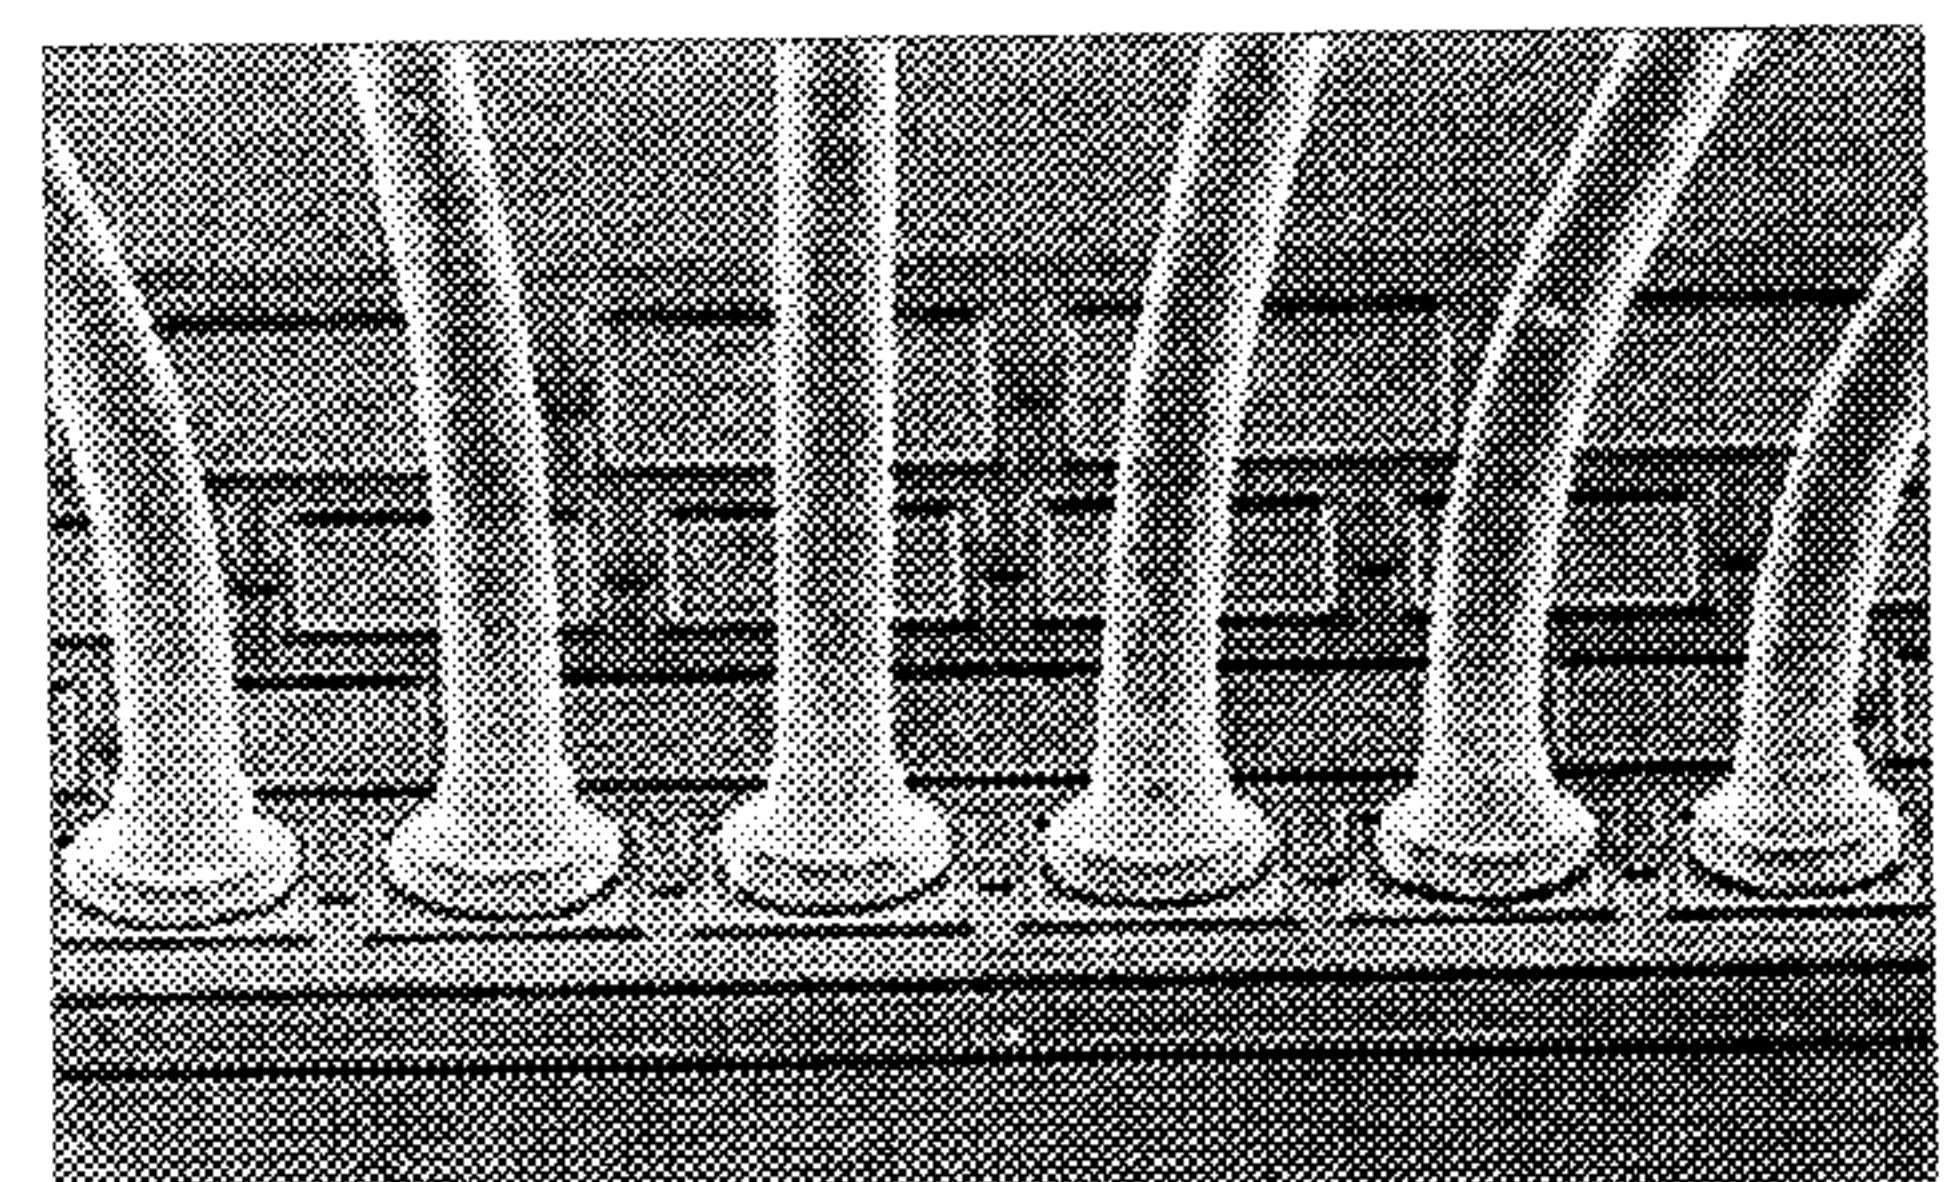

Fig. Ex4.87
- 4.87 Prepare a caption for the figure shown in Fig. Ex4.87.